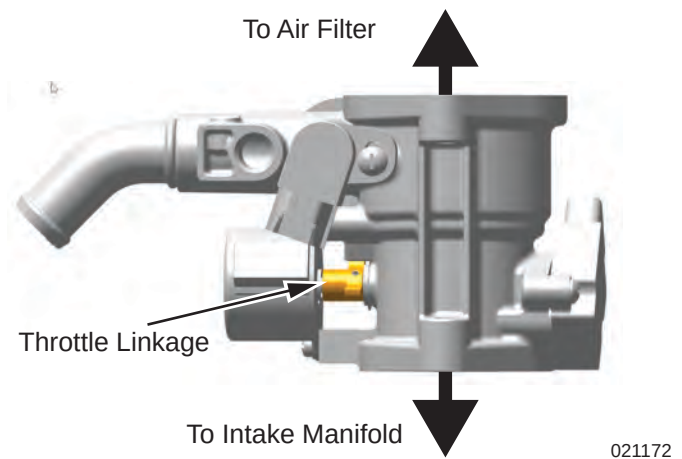

Figure 10-43. External Throttle Valve Linkage
3. See Figure 10-43. While visually observing the external throttle valve linkage, remove and reinstall the 15A fuse from the fuse holder in Wire 13. The throttle linkage should fully sweep then set itself for engine starting.